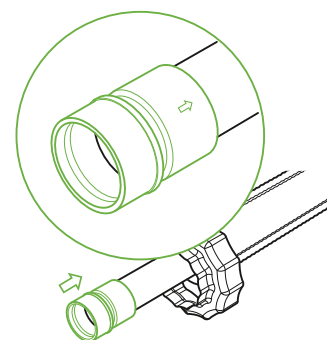

Fig. B10.2.3
4. Place the outer sleeve to the service pipe with the skirt facing towards the end of the pipe. The press direction arrow marking on the sleeve should be pointing to the pipe end (Fig. B10.2.3).